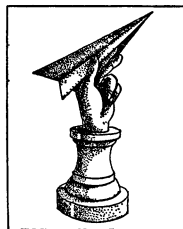

FIG. 6: The Leonardo.
1. Scientific American has created The Leonardo (see Fig. 6) to be winner's trophy in each of these four categories: a) duration aloft, b) distance flown, c) aerobatics, and d) Origami.
“Vittorio Sarti of Italy in 1828 designed a genetic hybrid between a sailboat and a helicopter with great vanes of paper designed to catch soaring breezes. It never got beyond drawing paper. (See Fig. 6.)